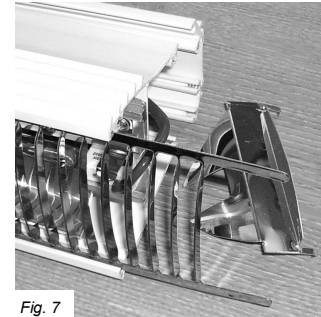

Fig. 7
8. Slide out the side reflector and the guard completely through the open end to fully expose the lamp holder (Fig 7).